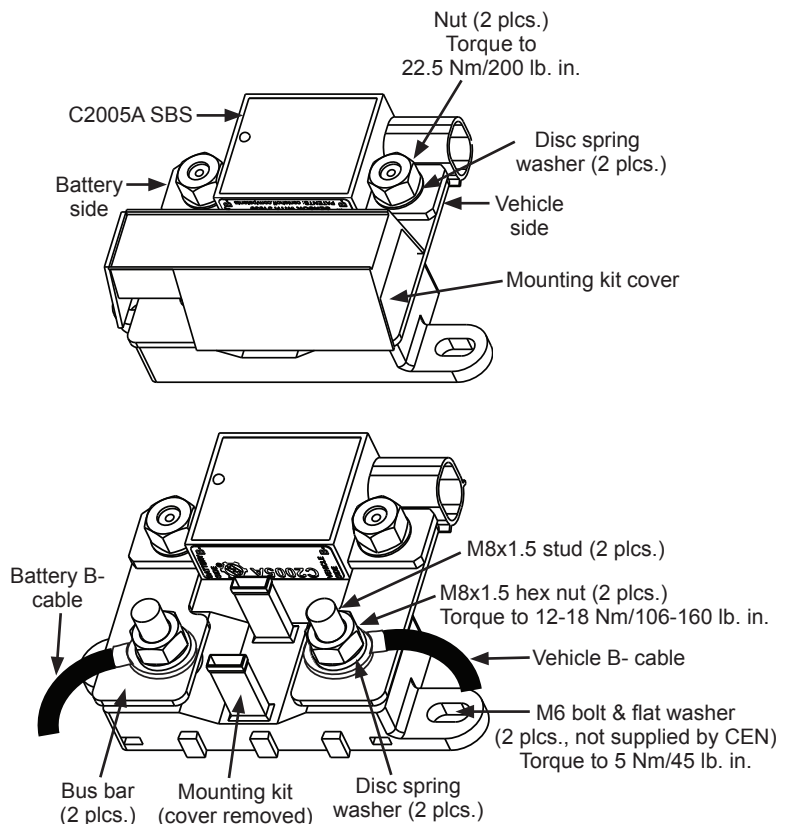

Figure 5: Typical A9-2034 Mounting Kit Installation
- Place supplied bus bars on mounting kit studs as shown in Figure 5.
- Install battery B- cable and vehicle B- cable terminals on appropriate mounting kit studs according to markings on C2005 label. Secure with disc spring washers (beveled side facing bus bar) and hex nuts removed in step a. Torque hardware to 12-18 Nm/106-160 lb. in., then close mounting kit cover. See Figure 5.
- Place C2005A sensor terminals over bus bars and align sensor bolt holes in with bolt holes in mounting kit bus bars. Install bolt, disc spring washer (beveled side toward bus bar), and hex nut. Torque to 22.5 Nm/200 lb. in. See Figure 5.